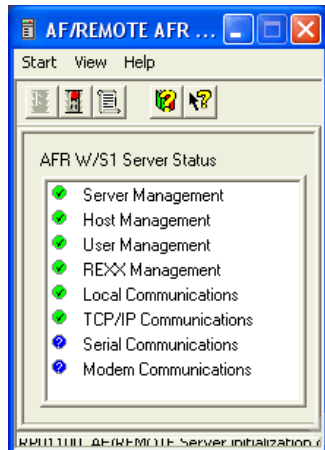

Figure F-5 AF/REMOTE server name change
9. The AF/REMOTE server reinitializes, and the new server name appears at the top of the Server status pane in the AF/REMOTE Server control panel (see Figure F-5).